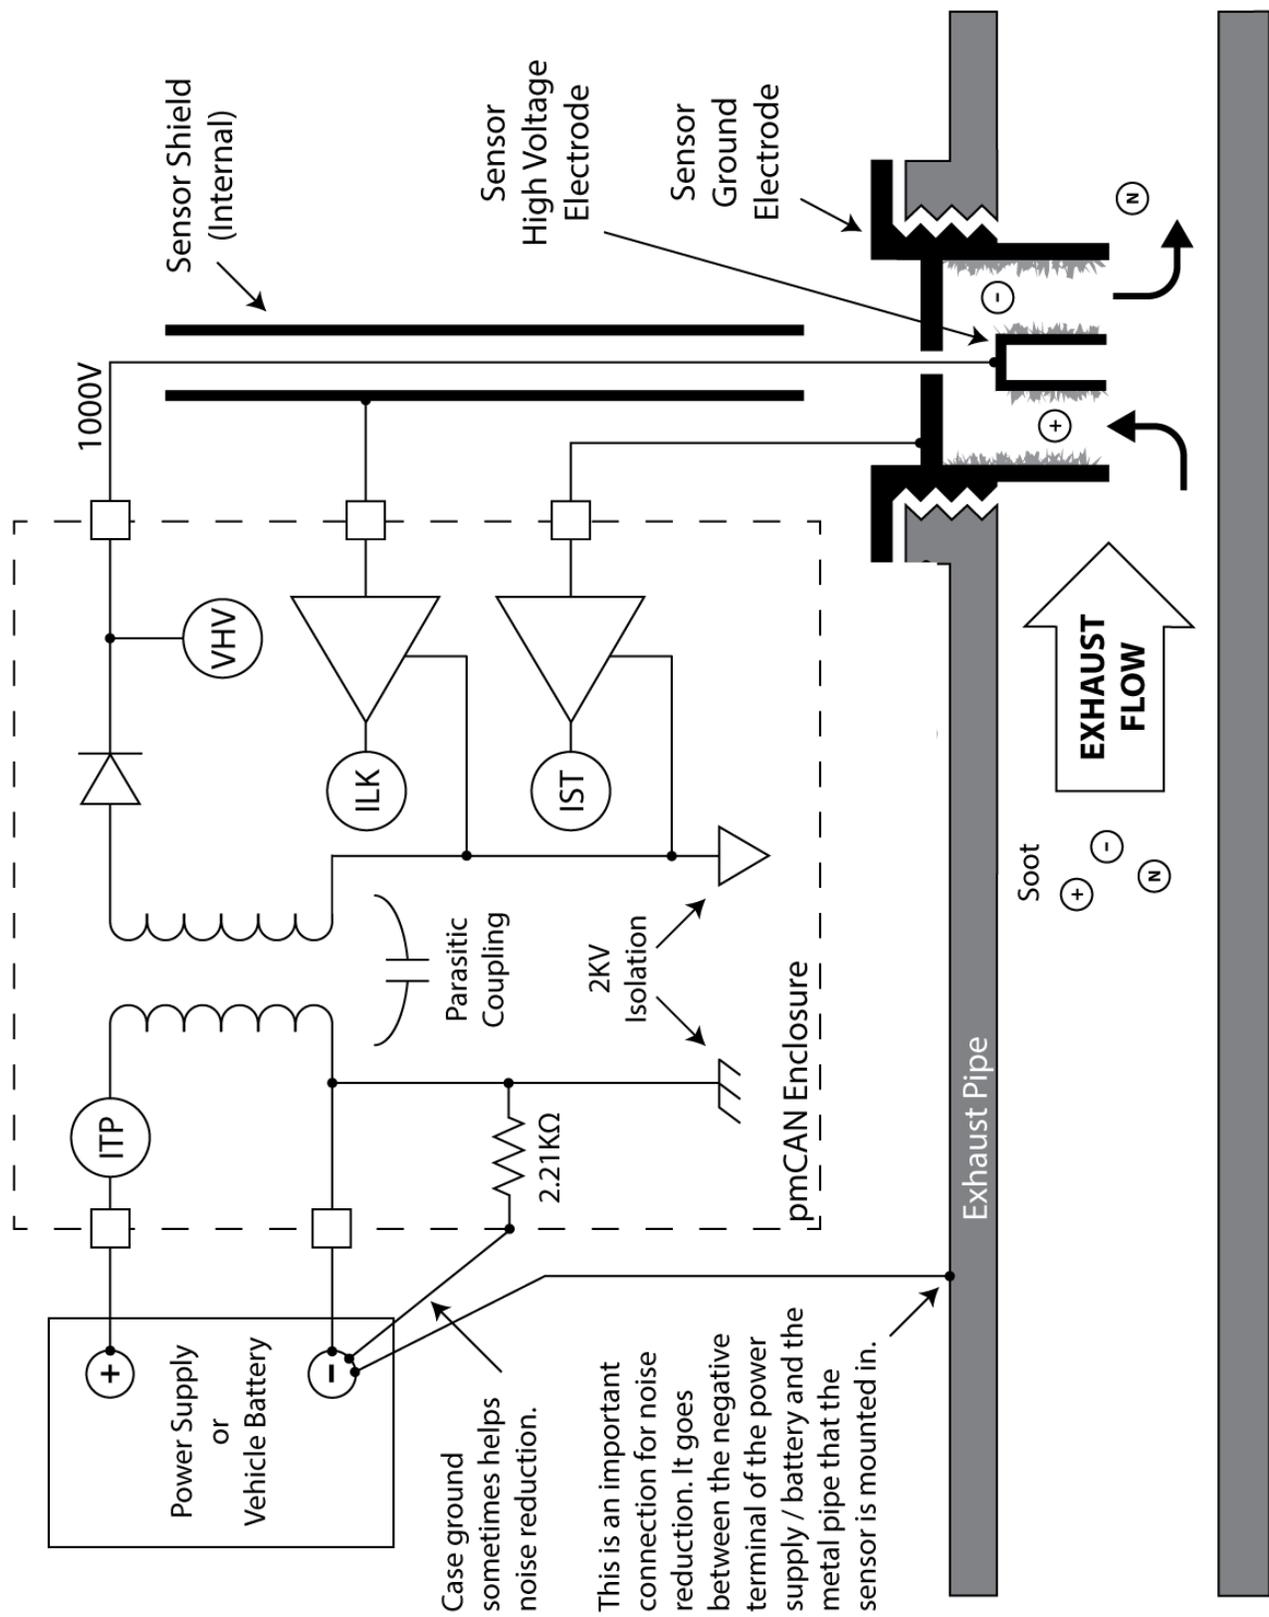

Figure 2: PM Sensor and Electronics
Figure 2 contains a more descriptive diagram of the sensor and the external measurement electronics. Note from the figure the following:
6. PM can be positively, negatively, or neutrally charged. This is represented in Figure 2 by the circles with “+”, “-“, or “N” in them inside the exhaust pipe and sensor.
**Fouling the Sensor:** Fouling is the direct shorting (via carbon or a liquid) between two or more of: the high voltage electrode, the ground electrode, or the shield (see Figure 2). Most of the time, fouling occurs between the high voltage electrode and the ground electrode. Fouling often occurs as follows: